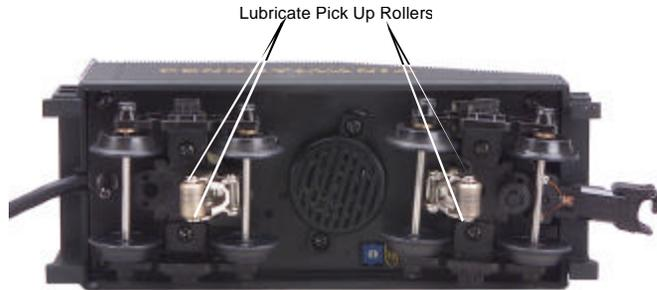

Figure 2. Lubrication Points on the Tender
3. You should lubricate all side rods and linkage components and pickup rollers to prevent them from squeaking. Lightly the drive gears (refer to page 11) to prevent them from squeaking. Use light household oil and follow the lubrication points marked “L” in Figures 2 and 3 on p. 10. Do not over-oil. Use only a drop or two on each pivot point.
You should regularly lubricate all side rods and linkage components and pickup rollers to prevent them from squeaking. Use light household oil and follow the lubrication points marked “L” in Figures 2 and 3. Do not over oil. Use only a drop or two on each pivot point.